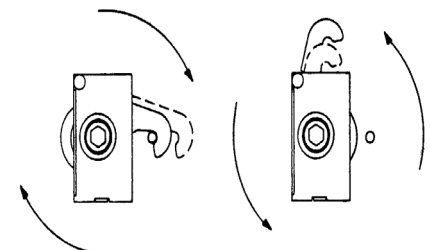

FIGURE 1 - CAMLOCK OPERATION
1. Before beginning the installation of a walk-in, it is essential to be familiar with the operation of the camlock (Refer to Figure 1). The operation of the camlock is achieved by the use of a 5/16" hexagon wrench supplied with each walk-in. Insert the wrench into the access hole in the panel and rotate the camlock by turning the wrench in a clockwise direction. Turn the wrench counter clockwise to retract the camlock into its housing.